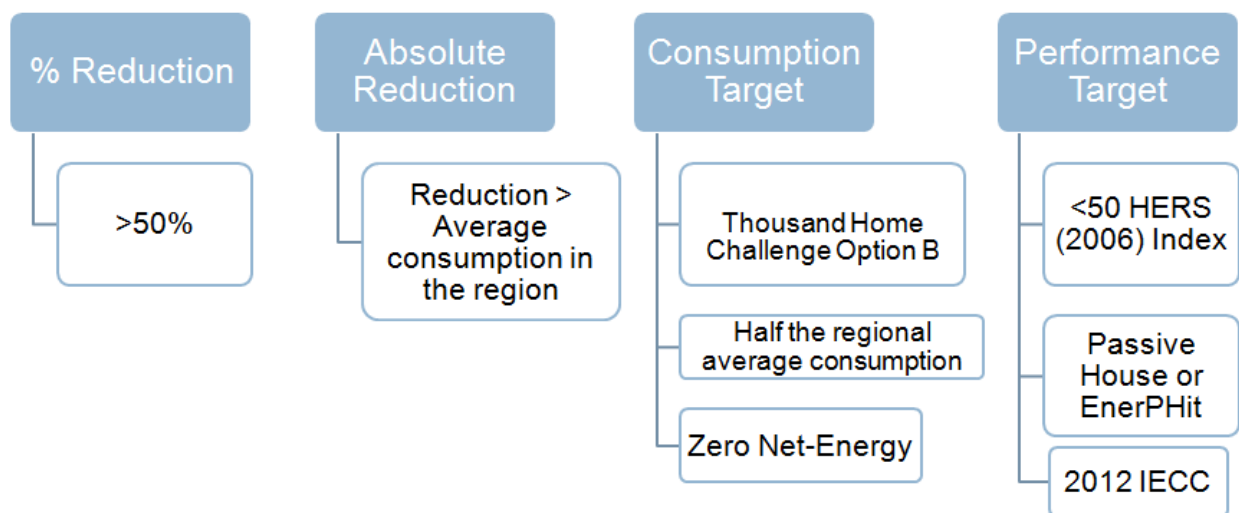

Figure 2 Example definitions of DERs that can be used in project planning and assessment.
Establish energy baseline using utility bill analysis, preferably with minimum 12-month duration. Depending on fuel type, estimate heating, hot water, cooling and other energy categories. If bills are unavailable, a consumption or performance target may be more appropriate (see Figure 2 below). Also consider performing an electricity audit for miscellaneous devices in the home (find a useful tool here). Use a plug-in electrical meter to estimate use of appliances, entertainment centers, computers/peripherals, etc.
**Establish an annual performance target or energy reduction goal.** Setting specific goals for a project unites the project team, and ensures that priorities are clear to all parties. Many DER research efforts and programs have begun to prefer specifying a post-retrofit target, rather than reductions. This is because pre-retrofit data is often unavailable, and the assessment of reductions is often confused by changes in floor area, occupancy, and building services. In these cases, *Consumption Targets* or *Performance Targets* are appropriate (see Figure 2 below for examples of these goal types). If pre-retrofit energy use is either known (from utility bills) or estimated by simulation, then *% Reduction* and *Absolute Reduction* targets can be used, potentially in-addition to consumption/performance targets.